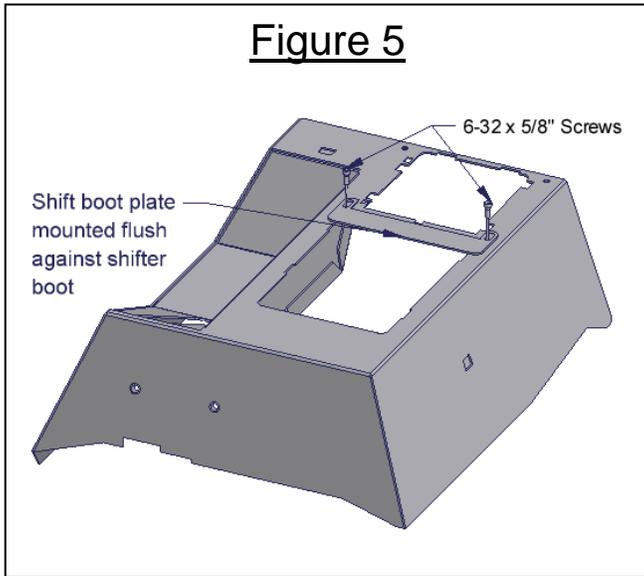

Figure 6
22. Attach the front console tray using (4) 6-32 x 5/8" screws (SEE FIGURE 6). Position the tray flush against the shift boot so it holds the shift boot tightly.